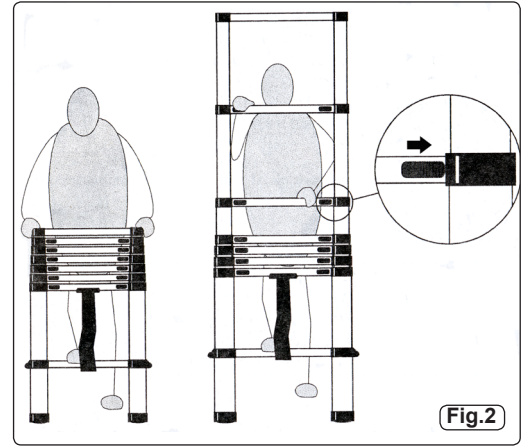

Fig.2
4.2 Fully Extending the Ladder (Fig.2)